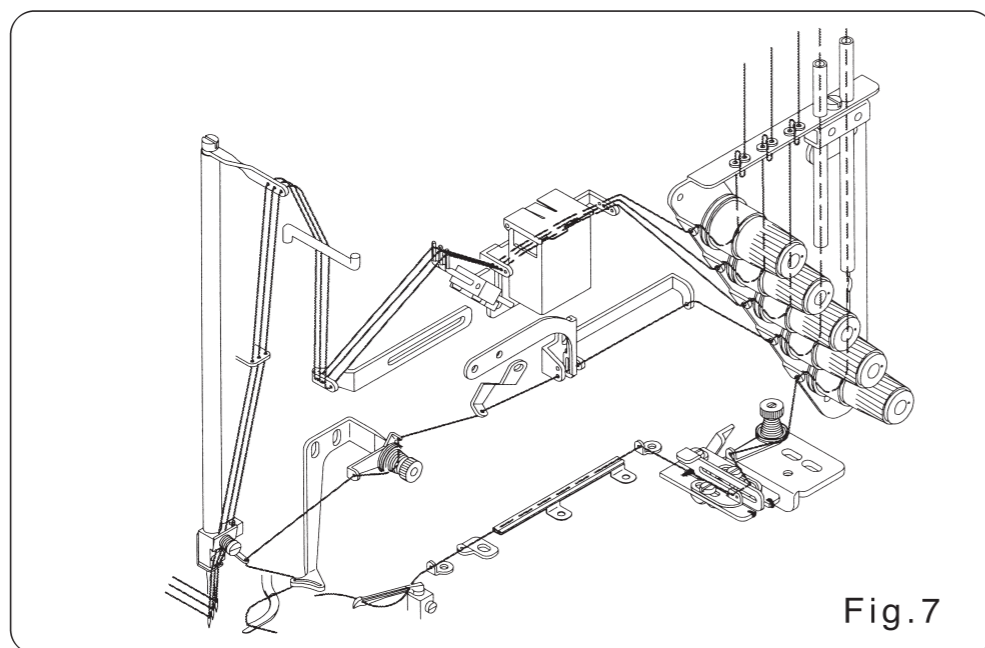

Fig.7
1. Threading should be made correctly. Refer to the illustration. (Fig.7) The wrong threading may cause thread breaking, skipping stitch or puckering.